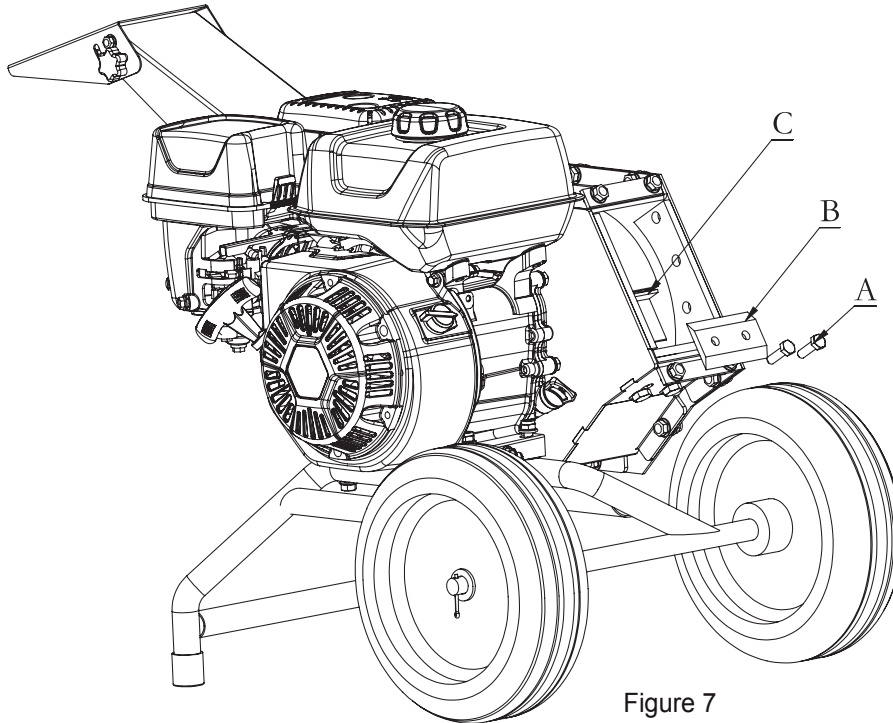

Figure 7
2. Fixed the cutting disk (C), loosen M8\*25 bolt (A), and replace the knife (B). (See Figure 7)